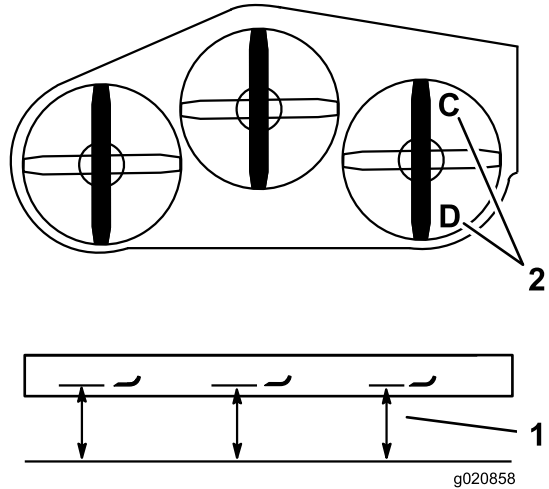

Figure 84
1. Position the right blade front-to-rear (Figure 84).
2. Measure the right blade at the **C** location, from a level surface to the cutting edge of the blade tip, and record this measurement (Figure 84).
3. Measure the right blade at the **D** location, from a level surface to the cutting edge of the blade tip, and record this measurement (Figure 84).
Note: The mower blade should be a 6 to 10 mm (1/4 to 3/8 inch) lower at position **C** than at position **D** (Figure 84). If it is not correct, proceed to the following steps.